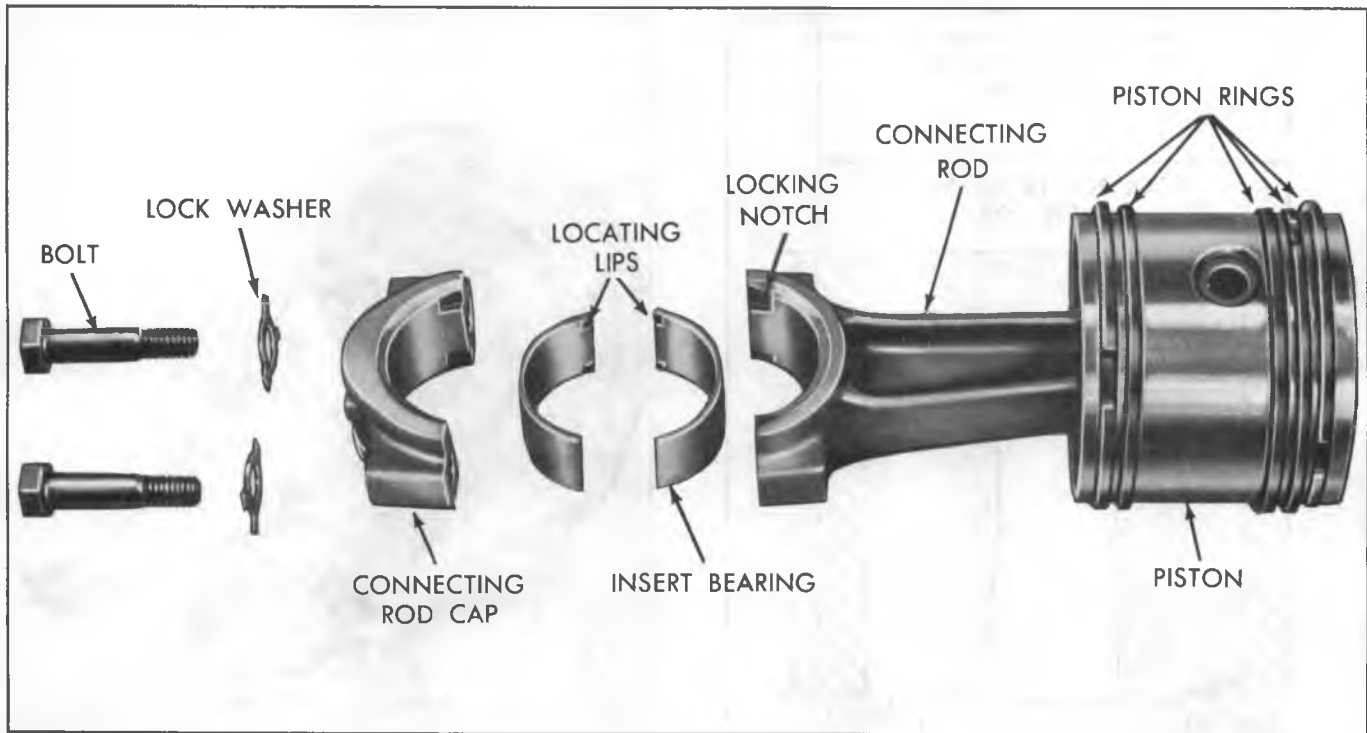

Fig. 19G—Piston and Connecting Rod Assembly
**NOTE: All locating lips are on the same side as cap bolt (fig. 19G).**
before inserting pistons into cylinder block. Refer to figure 19G for an example of staggered ring gaps.